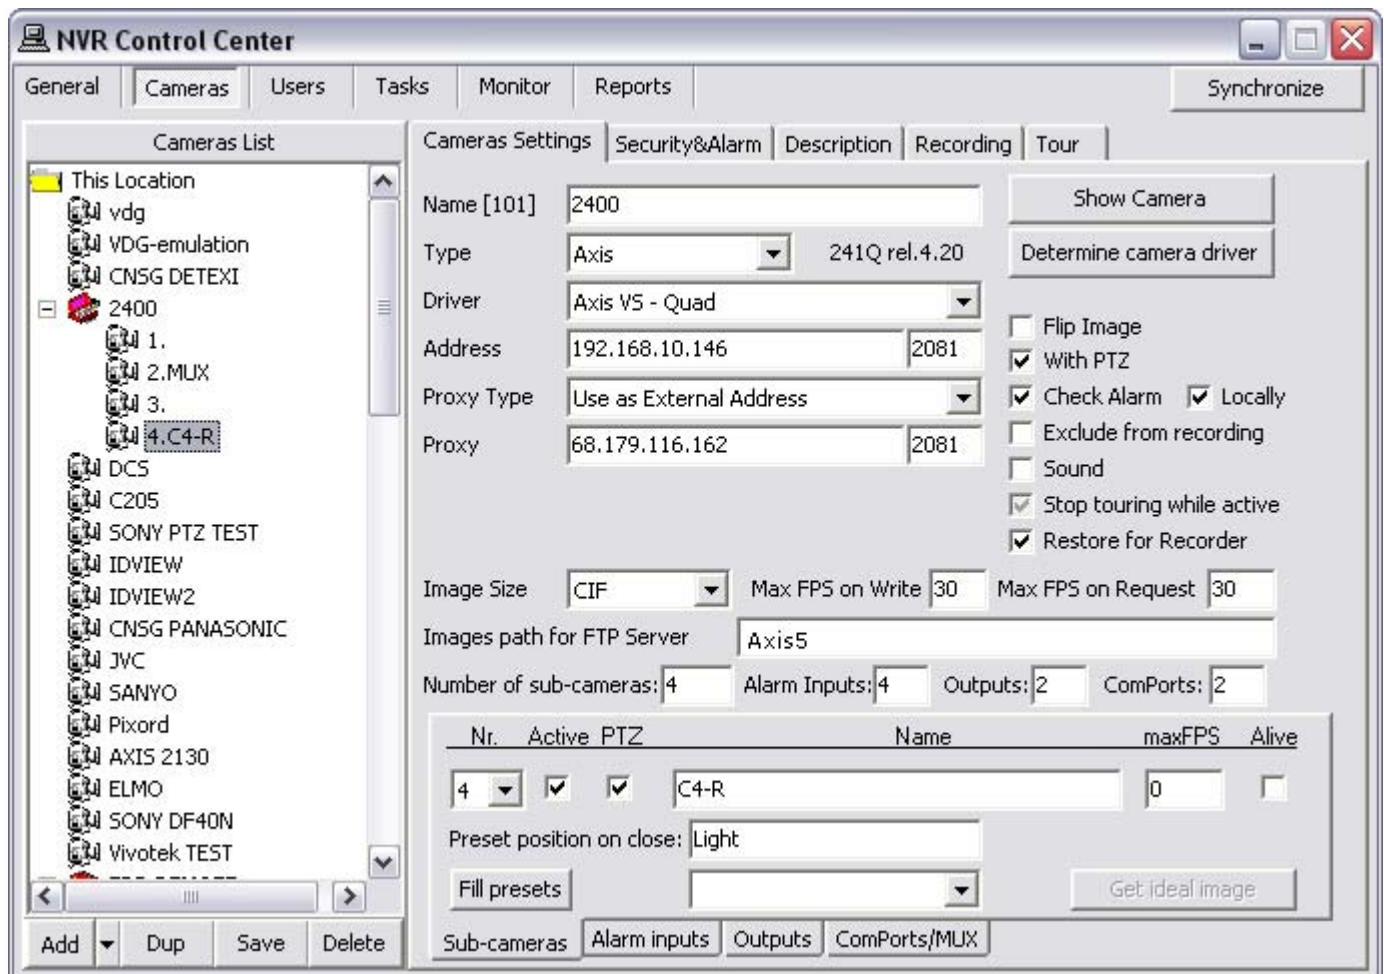

Fig 58. NVR Control Center — Camera Settings
1. In the **NVR Control Center — Cameras** select a camera from the **Cameras List** and switch to the **Recording** (Fig 58).